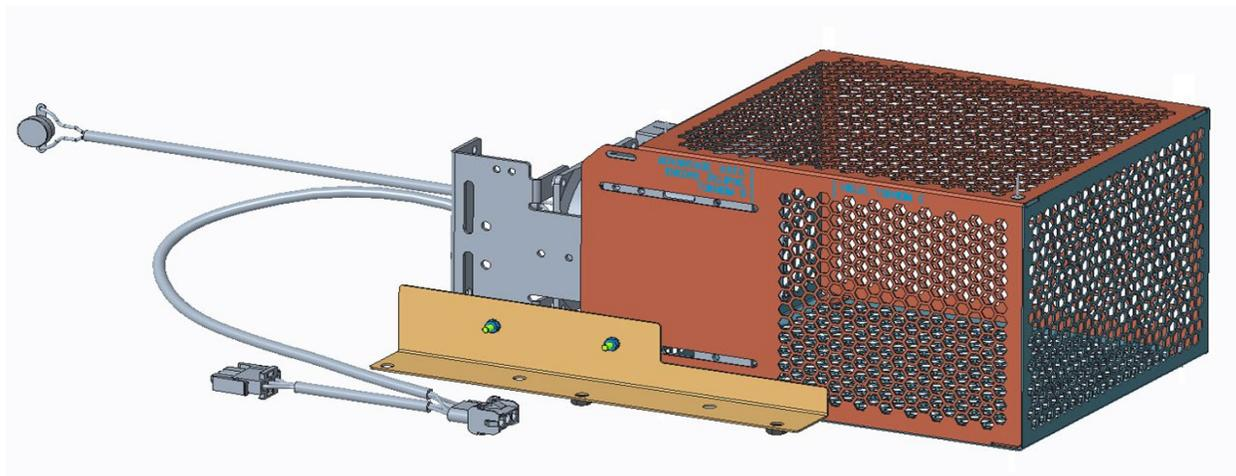
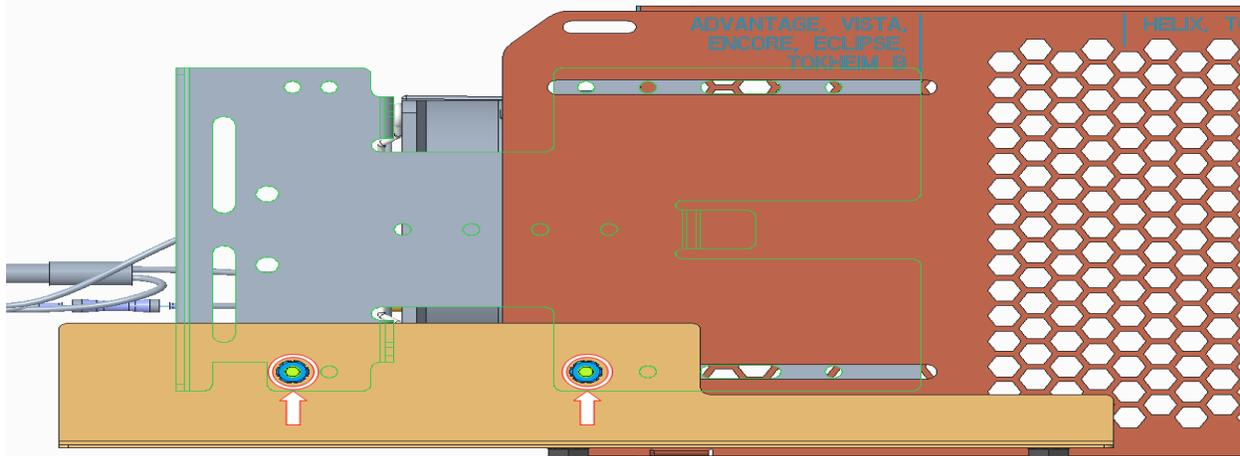

Figure 6
Figure 7
- 7) Mount NCR heater + wire guard (497-0522796) assembly to OPTIC Heater Shield Bracket Mount (497-0522505) using two pairs of 6-32 screws and nuts (006-8611215; 006-8611426). As shown in Figure 6 and Figure 7 below